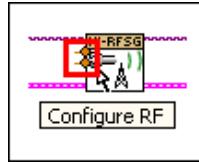

Figure 3. Frequency and Power Level Terminals on the niRFSG Configure RF VI
7. Hover the mouse tool over the **frequency** and **power level** terminals of the niRFSG Configure RF VI. The terminals are highlighted in Figure 3: